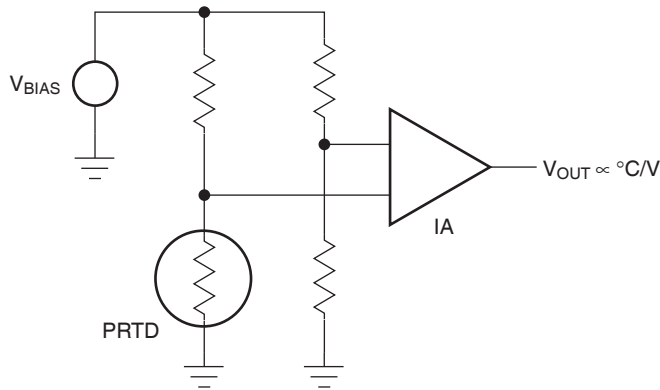

FIGURE 2A.
Figure 2A depicts a simplified example of a PRTD (platinum resistance temperature detector) is a bridge circuit whose output is amplified by a high performance instrumentation amplifier (IA). Amongst the problems associated with this traditional approach is the lack of variability to account for sensor variations, lack of a linearization scheme, and the high cost of the instrumentation amplifier.